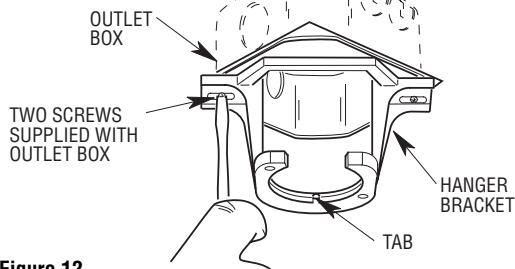
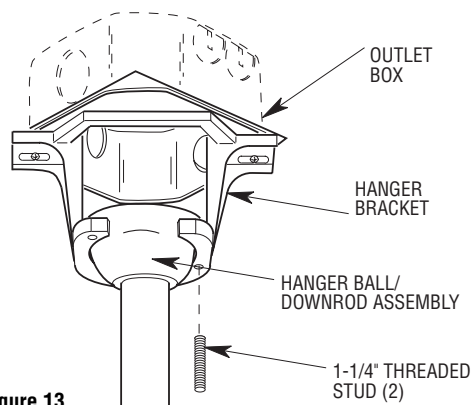

Figure 12
Figure 13
1. Securely attach the hanger bracket to the outlet box using the two screws supplied with the outlet box. (Figure 12).
2. Carefully lift the fan and seat the hanger ball/downrod assembly on the hanger bracket that was just attached to the outlet box (Figure 13). Be sure the groove in the ball is lined up with tab on the hanger bracket (Figure 12).